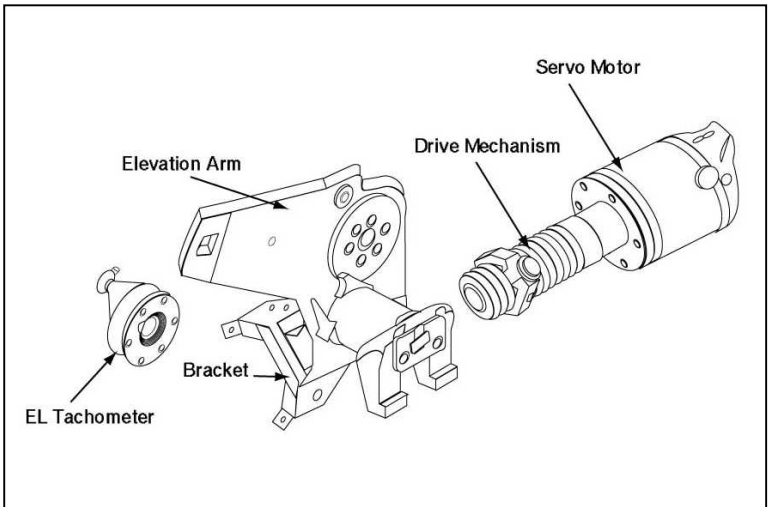

Figure 4-2-5: Elevation Drive Mechanism
20. **Elevation Drive Mechanism.** The elevation drive mechanism consists of a 24 V dc gear motor, coupled to a drive mechanism, which is connected between the turret and the elevation arm (see Figure 4-2-5). For maintenance and collimation, the drive mechanism can be manually operated by removing the plug at the front of the turret and inserting a screwdriver in the slot at the end of the roller screw.
21. **Elevation Tachometer Assembly.** The elevation tachometer (see Figure 4-2-5) is bolted on the right inside of the turret casing and is rotated by a link connected between the elevation arm and the tachometer lever. As the turret is elevated or depressed, the tachometer will detect any movement of the elevation arm. An electrical signal that is proportional to the movement of the turret is generated and sent to the MGS. The MGS then sends a corresponding signal to the missile to alter its course to the new elevation or line of sight.